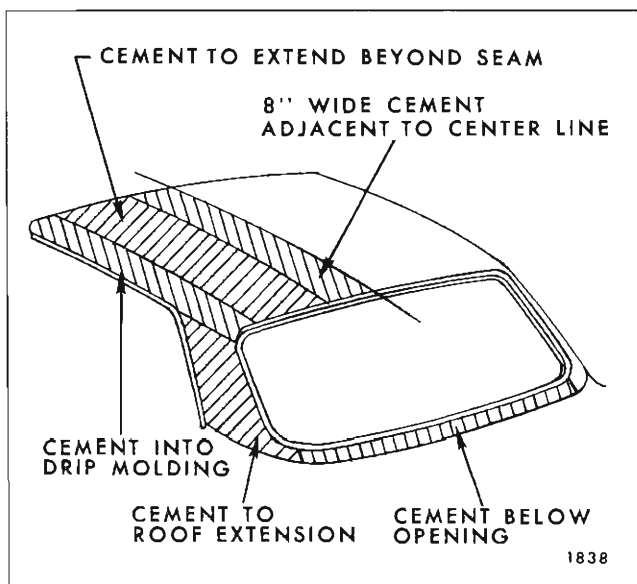

Fig. 2J4—Cementing Fabric Roof Cover
center line. Apply an 8" wide strip of cement (nitrile or neoprene) on roof panel adjacent to center line of roof panel. (See Fig. 2J4).
- e. Once 8" strip of fabric cover is cemented to roof panel, fold over side portion of fabric cover. Apply nitrile cement to roof panel to extend approximately 1" beyond dielectric seam location. If neoprene type weatherstrip cement is used, apply cement to fabric cover and roof panel to extend 1" beyond dielectric seam location. (See Fig. 2J4).